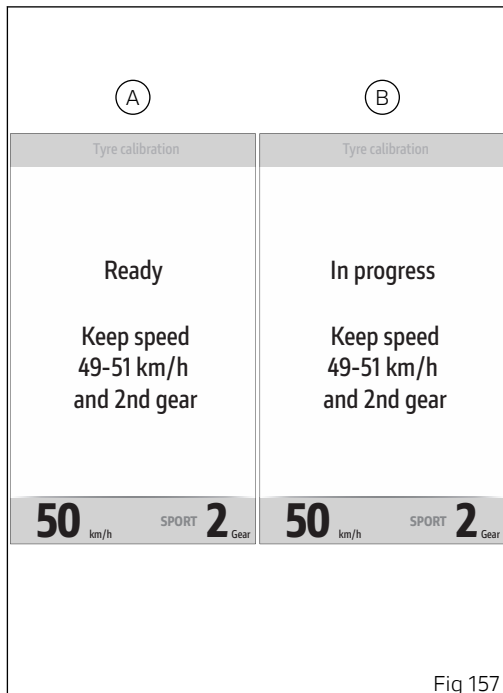

Fig 157
The procedure can be aborted by holding button (1) pressed for a long time: in this case the instrument panel displays all previous information, replacing message "In progress" (B, Fig 157) with message "Aborted" (D) followed by the previous menu after a few seconds.